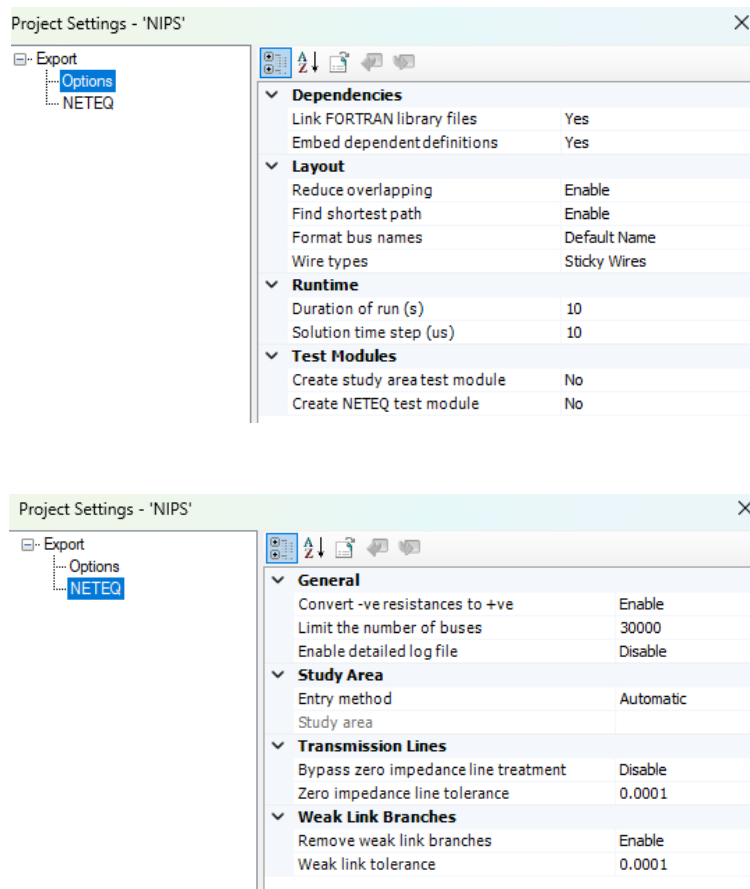

Figure 8: Required Export Settings
2. Select **Home>Export Settings** in PRSIM and ensure the export settings match the screenshots in Figure 8 below.
- Where the conversion of negative loads to voltage-source equivalents may materially affect the study results, the "-ve Load as VS" option shown in Figure 8 should be set to False.